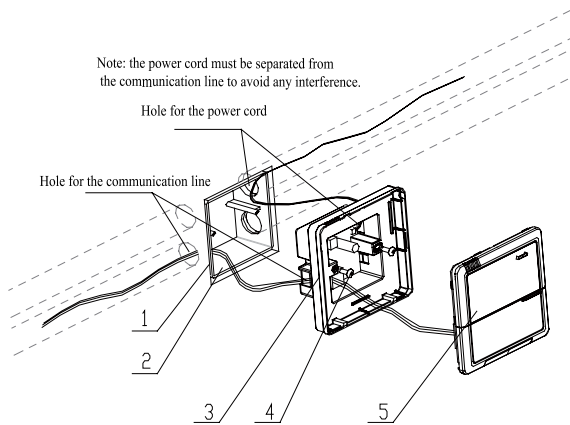

Fig. 7.6 Installation Diagram
- b. Embed the power supply box (2) as Fig.7.6 for the installation of the bottom case (3).
- c. Connect the power cord and the communication line of the display board and then let both go through the power supply box (2).
- d. Fix the bottom case on the power box (2) by screws.
- f. Close the cover (5).